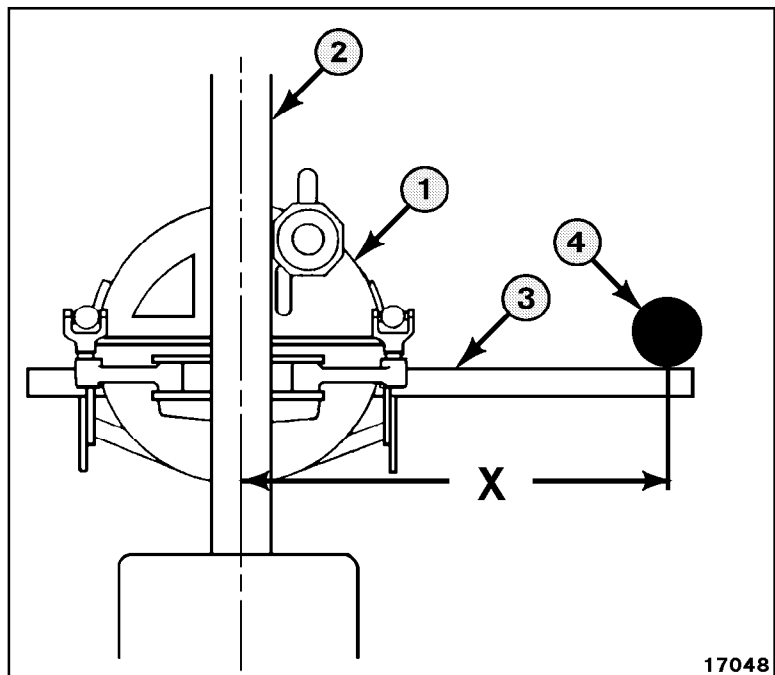

Figure 40
1. Position circle (1, Figure 40) so that the centerline of the circle is on the centerline of the frame (2).
2. Rotate blade (3, Figure 40) so that it is at 90° to the centerline of the circle (1) and frame (2).
3. Sideshift the blade (3, Figure 40) so that the end of it is more than 8 Ft. (2.44 m) from the centerline of the circle (1) and frame (2).